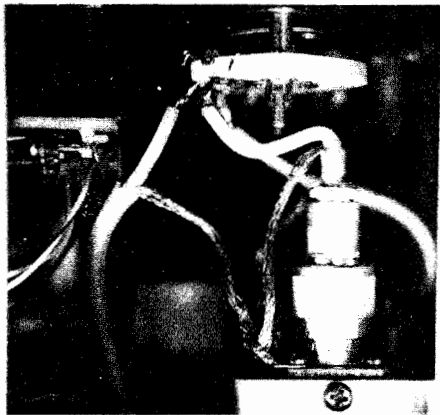
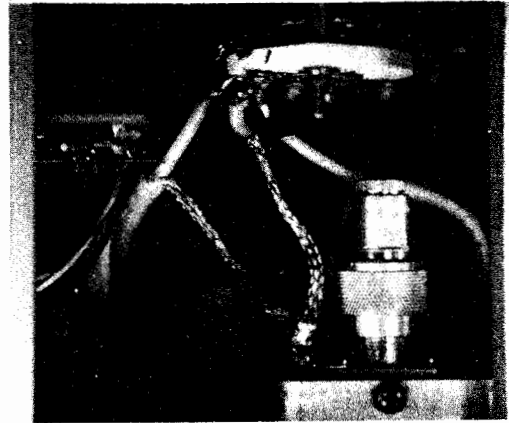

Figure 1. Installed cable RG-58()/U, Before Modification
Figure 3. Installed Cable RG-58()/U, After Modification.
A mismatch in present installations is caused by the extruded RG-58()/U cable, as shown in figures 1 and 2. To reduce this mismatch, the shield of the RG-58()/U cable should be terminated as close as possible to switch S1, with approximately one-half extrusion of center conductor and dielectric, as shown in figures 3 and 4. (701)